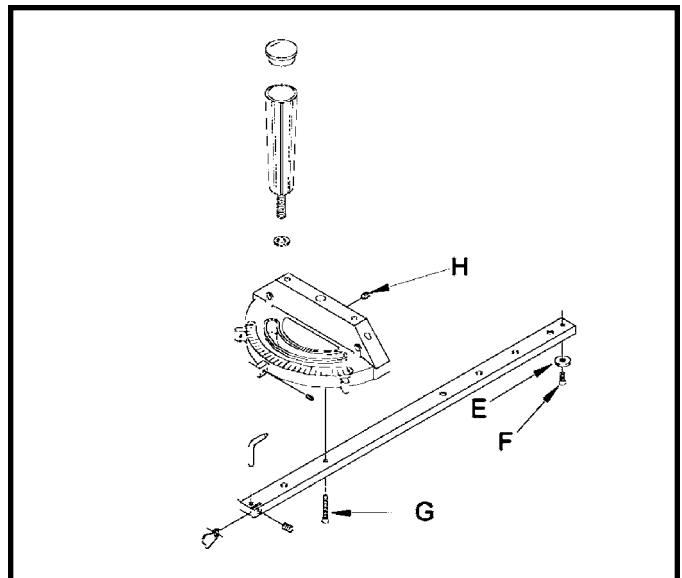

Fig. 129
The head of the miter gage pivots on a special tapered screw (G) Fig. 129, that fastens the head to the miter gage bar. If the miter gage head does not pivot freely, or pivots too freely, it can be adjusted by loosening set screw (H) Fig. 129, with allen wrench supplied, and turning the screw (G) in or out. Be certain to tighten screw (H) after adjustment is made.
Your miter gage is equipped with a plate (E) Fig. 129, which fits into the T-Slot groove in the table. This allows the miter gage to be pulled off the front edge of the table without falling. This allows for a longer cut off capacity in front of the blade.